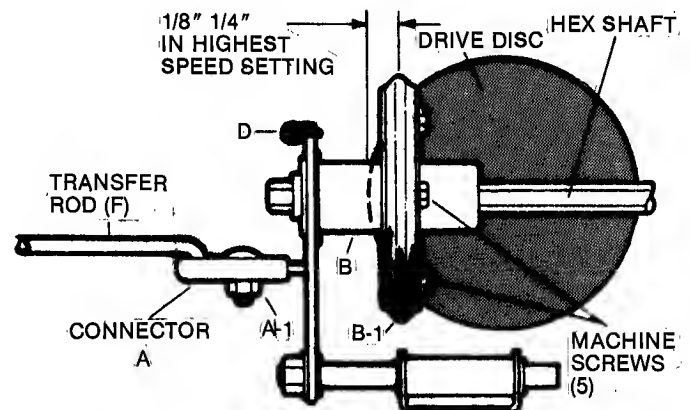

FIG. 13 -DRIVEN DISC COMPONENTS
DRIVEN DISC ADJUSTMENT: Stop the engine and shift the GROUND SPEED CONTROL (12) into the highest setting. The CENTER of driven disc should be $1/8"$ to $1/4"$ from the EDGE of the drive disc as shown in FIG.13. To re-adjust, loosen connector hex nut (A-1) and slide the driven disc in or out as required. Re-tighten connector hex nut to secure the driven disc in the proper position.